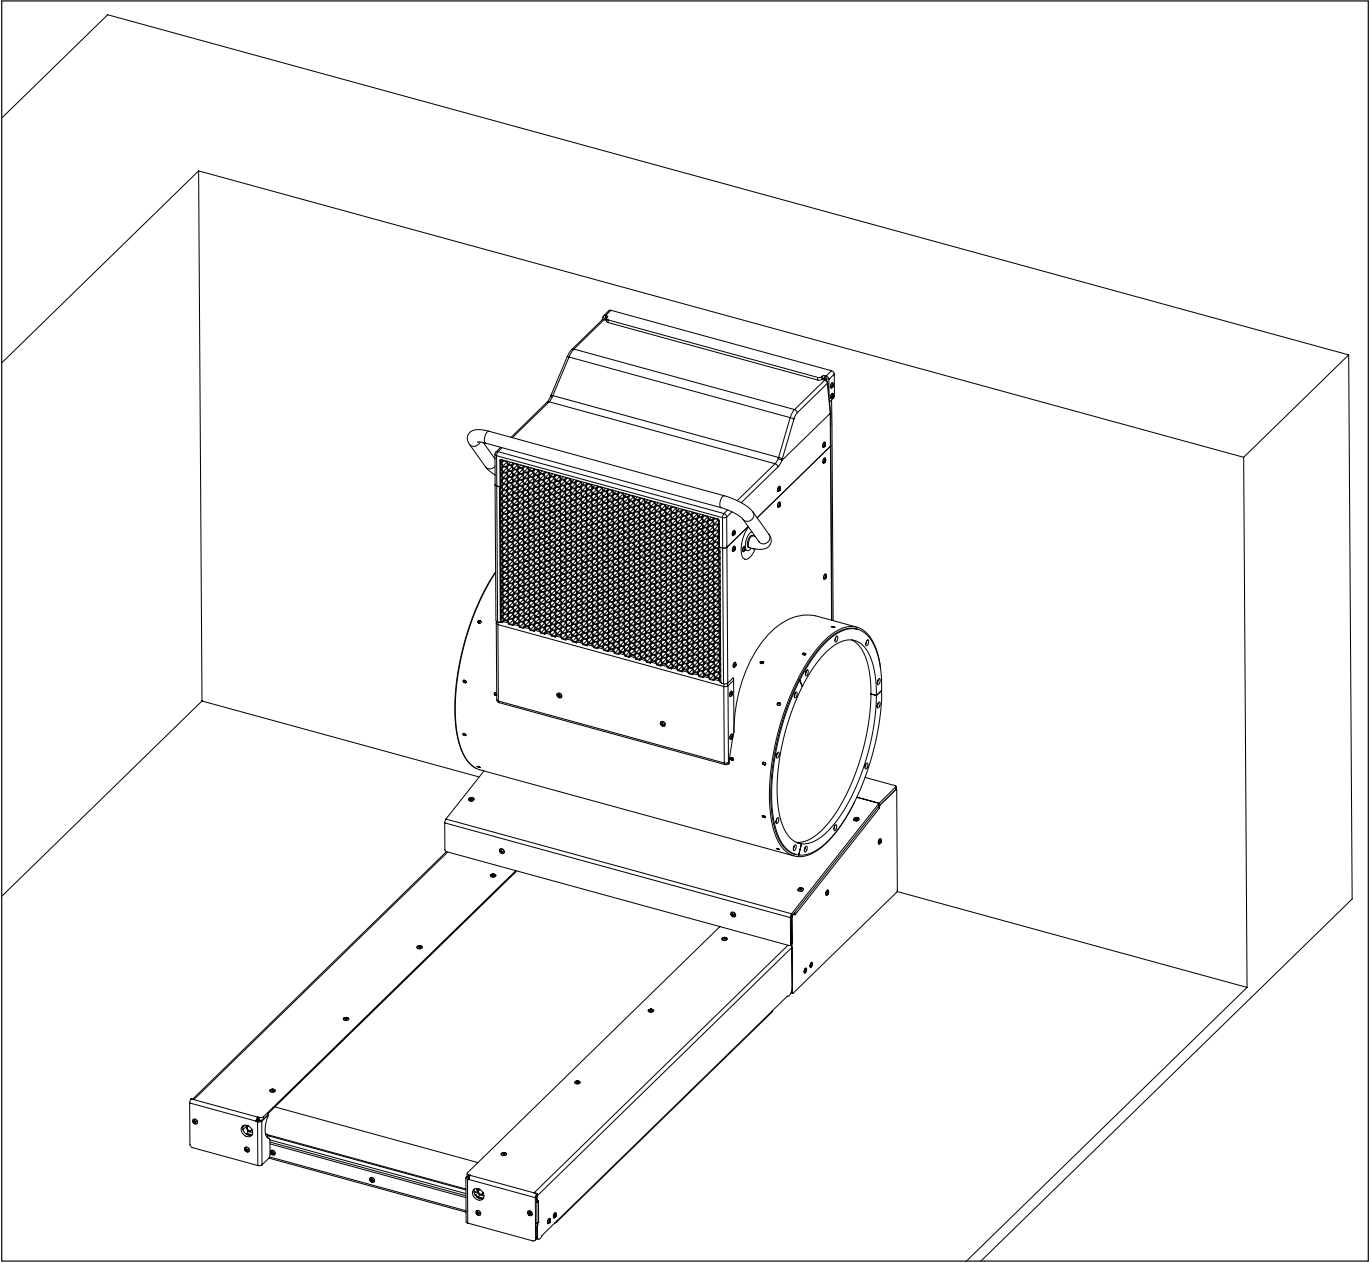

Fig. 19
- 8. If the Fastlane® Swim is being installed, it should be mounted on the pool wall at this time. Refer to the Fastlane Swim Owner's Manual for detailed instructions (Fig. 19).